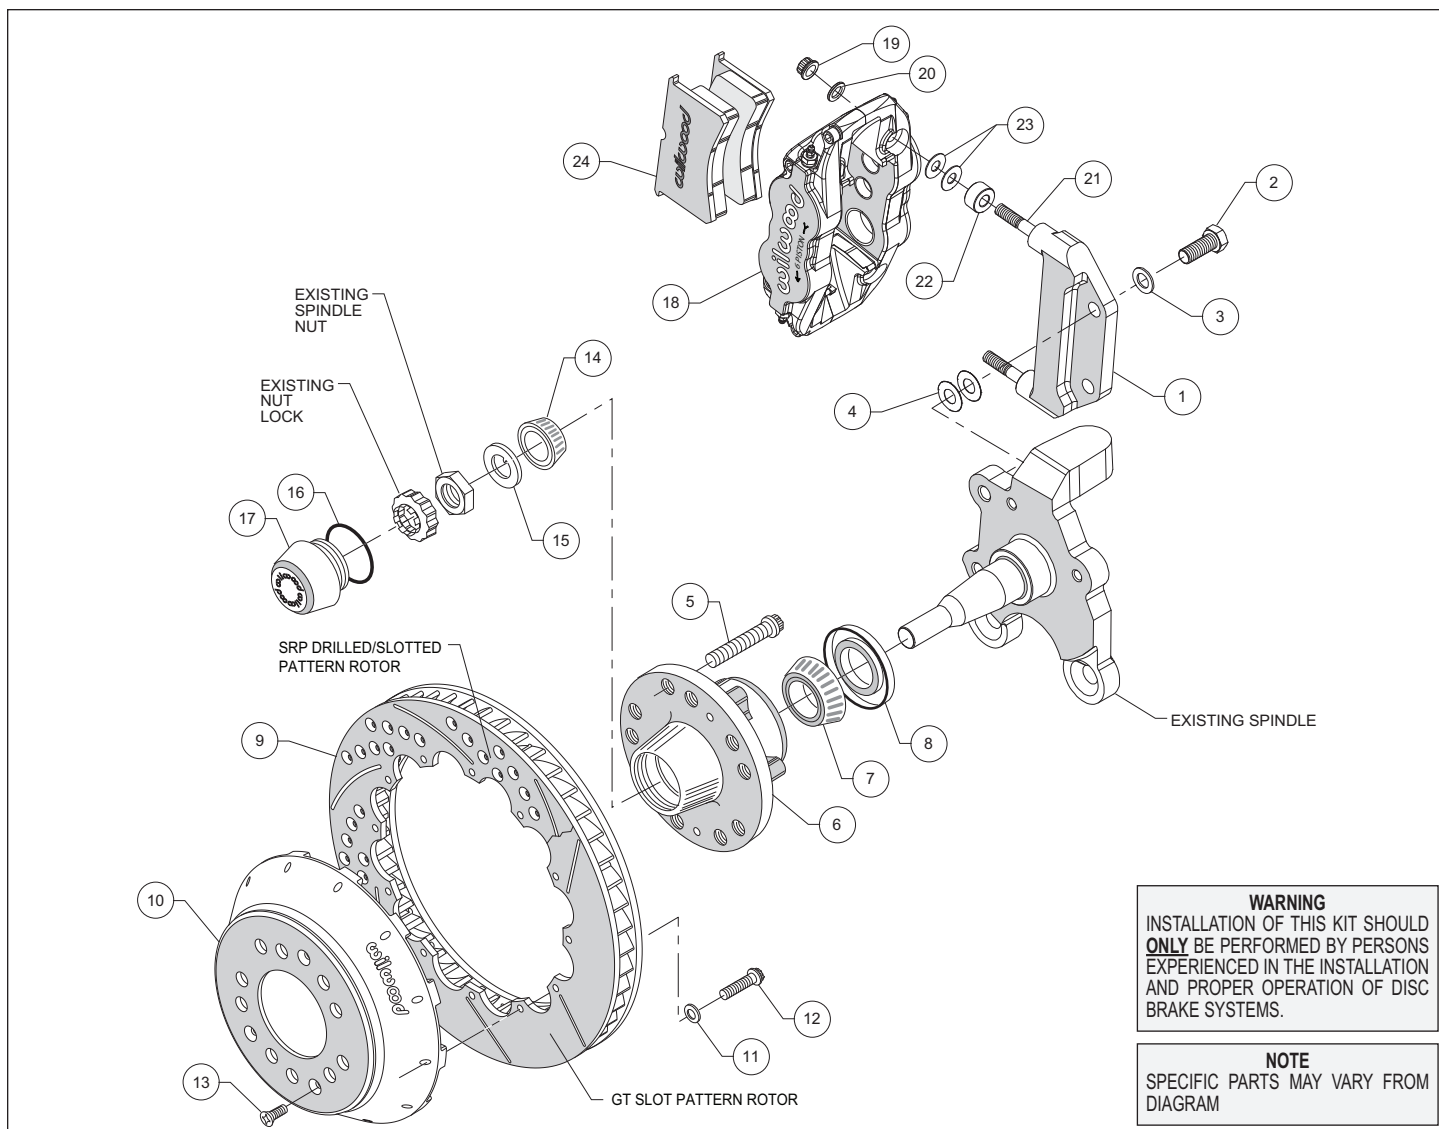
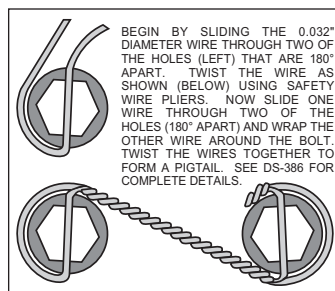

Figure 1. Typical Installation Configuration
Figure 3. Safety Wire Diagram
Assembly Instructions (numbers in parenthesis refer to the parts list on the preceding page, and Figure 1):
- The caliper mount bracket (1) should initially be installed with clean, dry threads on the mounting bolts. Orient the bracket as shown in Figure 1, and install using bolts (2) and washers (3). Initially place two .015" thick shims (4) on each bolt between the bracket and upright, Figure 1 and Photo 1. Temporarily tighten the mounting bolts. **NOTE:** *The bracket must fit squarely against the mount bosses on the upright.* Inspect for interference from casting irregularities, machining ridges, burrs, etc. Later, after the caliper alignment has been checked, the mount bolts will be secured using red *Loctite*® 271.
- Pack the large inner bearing cone (7) with high temperature disc brake bearing grease (available from your local auto parts store) and install into the backside of the hub (6), Photo 3.
- Install the grease seal (8) by pressing into the backside of the hub (6), flush with the end of the hub, Photo 3.
- Orient the rotor (9) and the hat (10) as shown in Figure 1 and Photo 4. Attach rotor to hat using bolts (12) and washers (11). Using an alternating sequence, apply red *Loctite*® 271 to the threads and torque bolts to 155 **in-lb**. For an added measure of security, the bolts may be safety wired using standard 0.032 inch diameter stainless steel safety wire as shown in Figure 3. Refer to Wilwood's data sheet DS-386 (available at www.wilwood.com/Pdf/DataSheets/ds386.pdf) for complete safety wire installation instructions.
- Slide the hat/rotor assembly (9/10) onto the hub (6) taking care to align the small countersunk holes in the hat with the small threaded holes in the hub. **NOTE:** The hat must fit flush against the hub face or excessive rotor run out may result. Install three flat head screws (13) through the small holes in the hat, Photo 6, and torque to 85 in-lb.
- NOTE:** This kit contains distinct right and left hand calipers that must be mounted in a specific direction, as described below. Lubricate the caliper mounting studs (21) with lightweight oil. Initially place two .035" thick shims (23) and one spacer (22) on each stud between the caliper and the bracket, as shown in Figure 1 and Photo 7. Mount the caliper (18) onto the bracket (1) using lock nuts (19) and washers (20), Figure 1. Ensure that the caliper is mounted so the largest pistons are at the rotor exit end of the caliper, in relation to the direction of rotor rotation. Temporarily tighten the lock nuts and view the rotor through the top opening of the caliper. The rotor should be centered in the caliper, Photo 8. If not, adjust by adding or subtracting shims (4) between the bracket and the upright. Always use the same amount of shims on each of the two mounting bolts. Once the caliper alignment is correct, remove the bracket mounting bolts one at a time, apply red *Loctite*® 271 to the threads, and torque to 65 ft-lb.